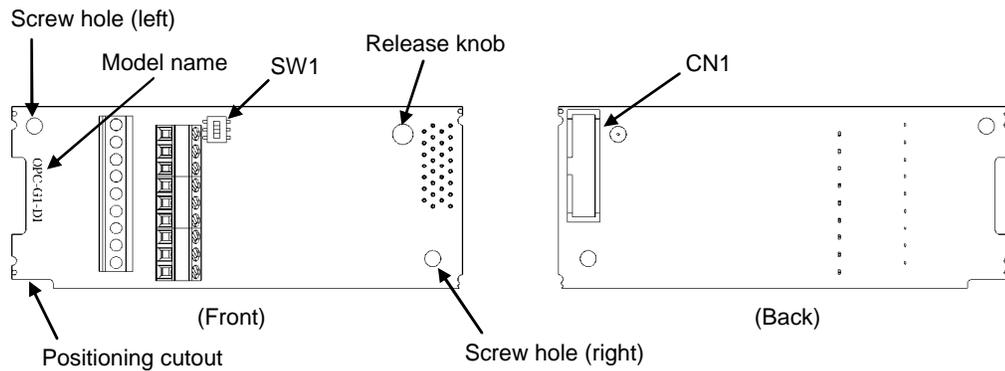

Figure 1.1 Name of Parts on Digital Input Interface Card (OPC-G1-DI)
- (1) An interface card, two screws (M3 × 8), and the Digital Input Interface Card/Digital Output Interface Card Instruction Manual (this manual) are contained in the package.
- (2) The interface card is not damaged during transportation--no defective parts, dents or warps.
- (3) The following model name is printed on the interface card.
- Digital input interface card: "OPC-G1-DI" (See Figure 1.1.)
- (2) Insert connector CN1 on the back of the interface card (Figure 1.1 or 1.2) into any of the A-port (CN4), B-port (CN5), and C-port (CN6) on the inverter's control PCB. Then tighten the two screws that come with the card. (Figure 1.5)
Note Check that the positioning cutout (shown in Figures 1.1 and 1.2) is fitted on the tab (① in Figure 1.4) and connector CN1 is fully inserted (② in Figure 1.4). Figure 1.5 shows the interface card correctly mounted.
- (3) Perform wiring on the interface card.